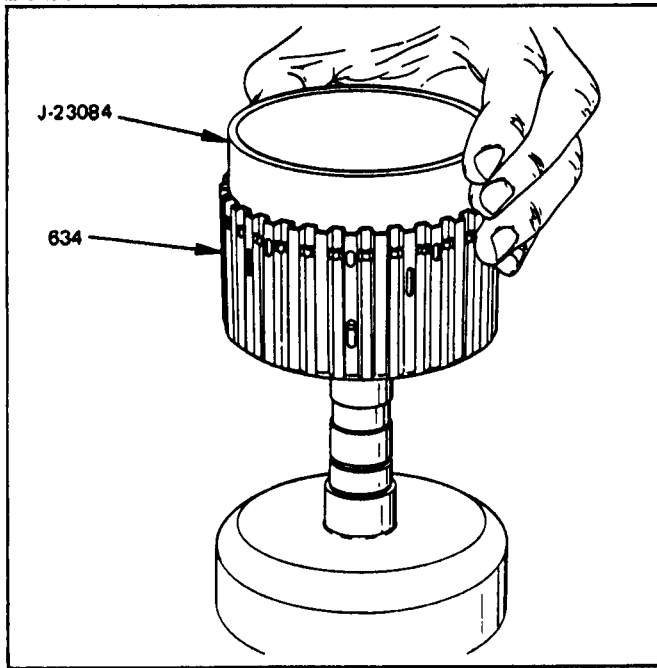

Figure 74
5. Install 3rd clutch piston into the housing using J-23084 seal protector as shown in Figure 74.